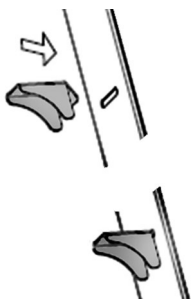

Figure 6.
12. Install 4 hook supports (#15) inside the cabinet to support the shelf. The angled tab slides into the slots along the inside edges of the side panels. Make sure each support is at the same height (Fig. 6).